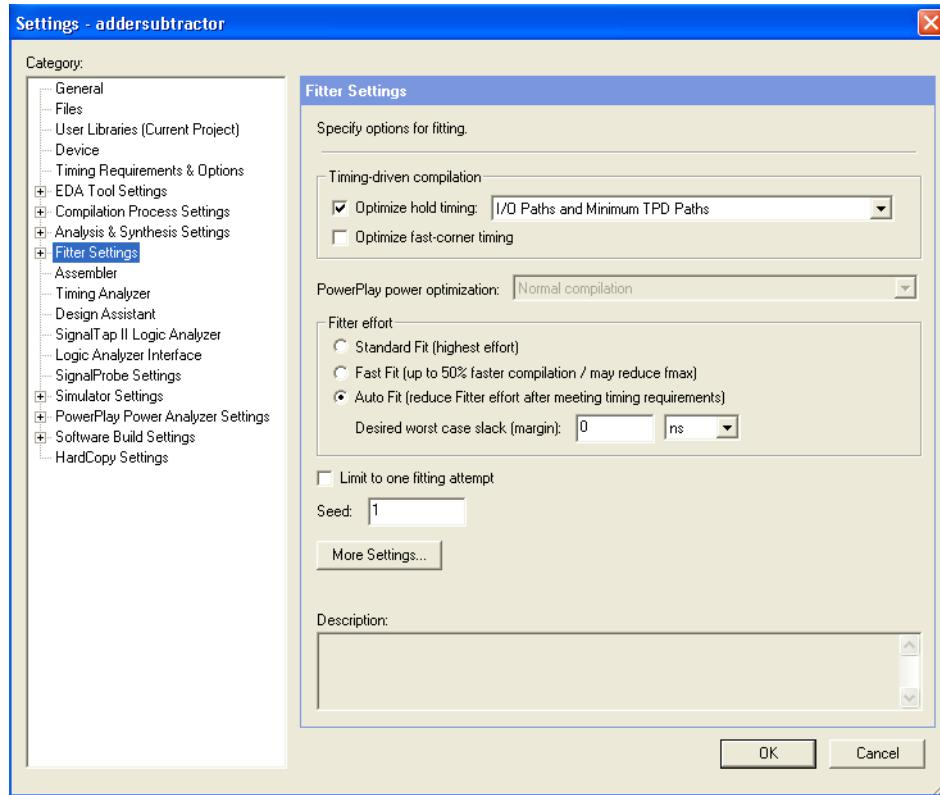

Figure 32: Fitter settings.
2. Click Assignments > Settings and then select the category Fitter Settings which opens the window in Figure 32. Three different levels of effort can be given. Choose the Auto Fit option, which instructs the Fitter to stop as soon as it finds an adequate implementation. The Fast Fit option reduces the compilation time, but it may produce a lower f_{max} . The third option, called Standard Fit, forces the Fitter to produce the best implementation it can find; at this effort level the Fitter will exceed the user's timing requirements as much as it can, which often results in longer compilation time. Click OK, and recompile the circuit.